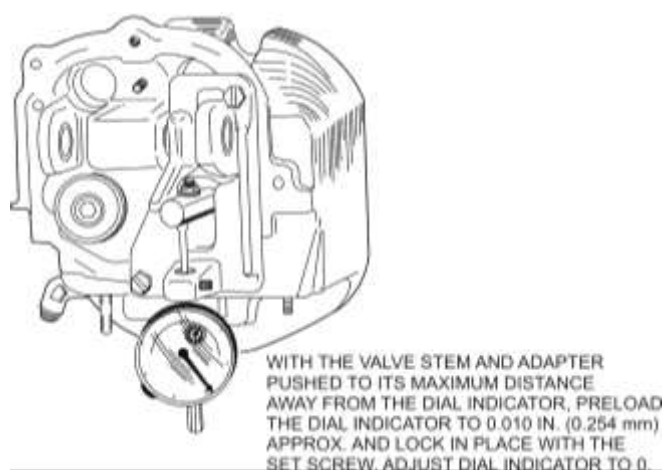

Figure 8
- (21) Push the exhaust valve stem and Gage Adapter (ST-71-8), against the upper exhaust valve spring seat as far as they will go.
- (22) Put the blade of a screwdriver in the area between the exhaust valve spring and Gage (ST-71).
- (23) Use the screwdriver to push the valve the maximum distance away from the dial indicator as shown in Figure 8.
- (24) Move the dial indicator toward the adapter post until the indicator is preloaded approximately 0.010 in. (0.254 mm), and lock it in place with the set screw (Figure 8).
- (25) Adjust the dial of the indicator to read "0" (zero) as shown in Figure 8.